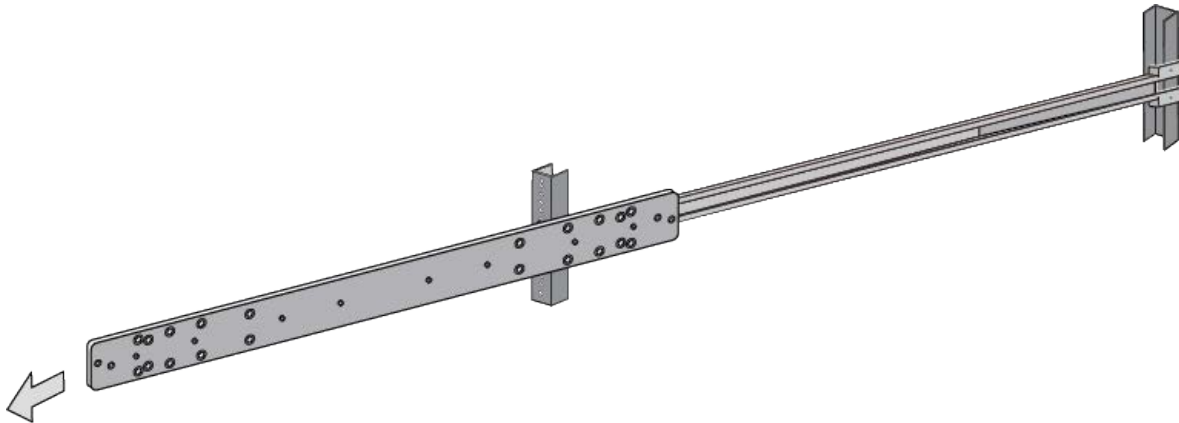

Figure 112. Removing the Inner Rail
- Remove the inner rail from the outer rail. Refer to Figure 112.